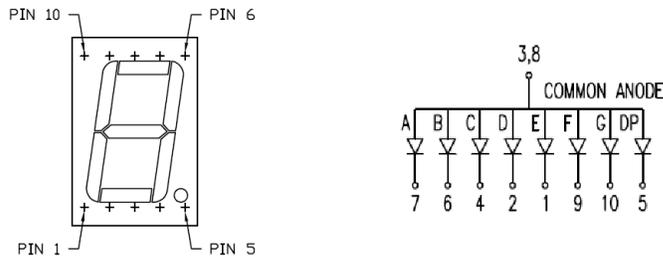
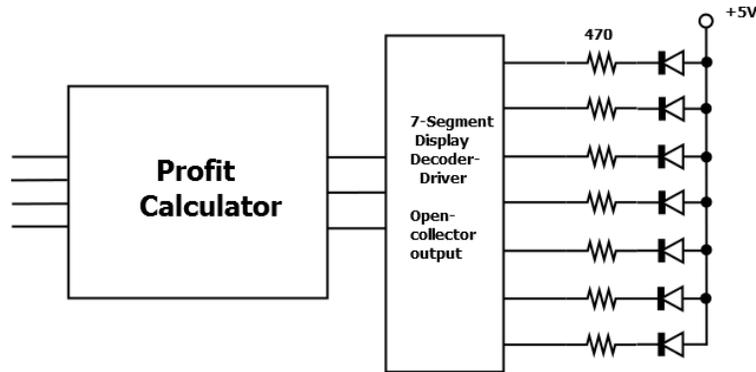

Figure 5: Seven-Segment Display Pinout
Figure 7: Open-Collector Driver to Display Circuit
For experiment 2, we would like to display the output of our profit calculator on a seven-segment display (Figure 5). To do so, we must utilize a BCD to seven-segment decoder/driver, part number SN74LS47,
As seen in Figure 5, the seven-segment display used in this lab is of a common anode configuration, meaning the positive terminals of the individual LED segments are connected together. Connect the output signals of the decoder to the seven-segment display provided in your lab kit with resistors as shown in Figure 7.
2. Provide a comparison between the table in item 1 and the truth table you created in the pre-lab. What values does your circuit output for the "don't cares" and why?
4. Figure 7 labels the driver output as having an open-collector output. Explain what this means. Consult the datasheet for more information.